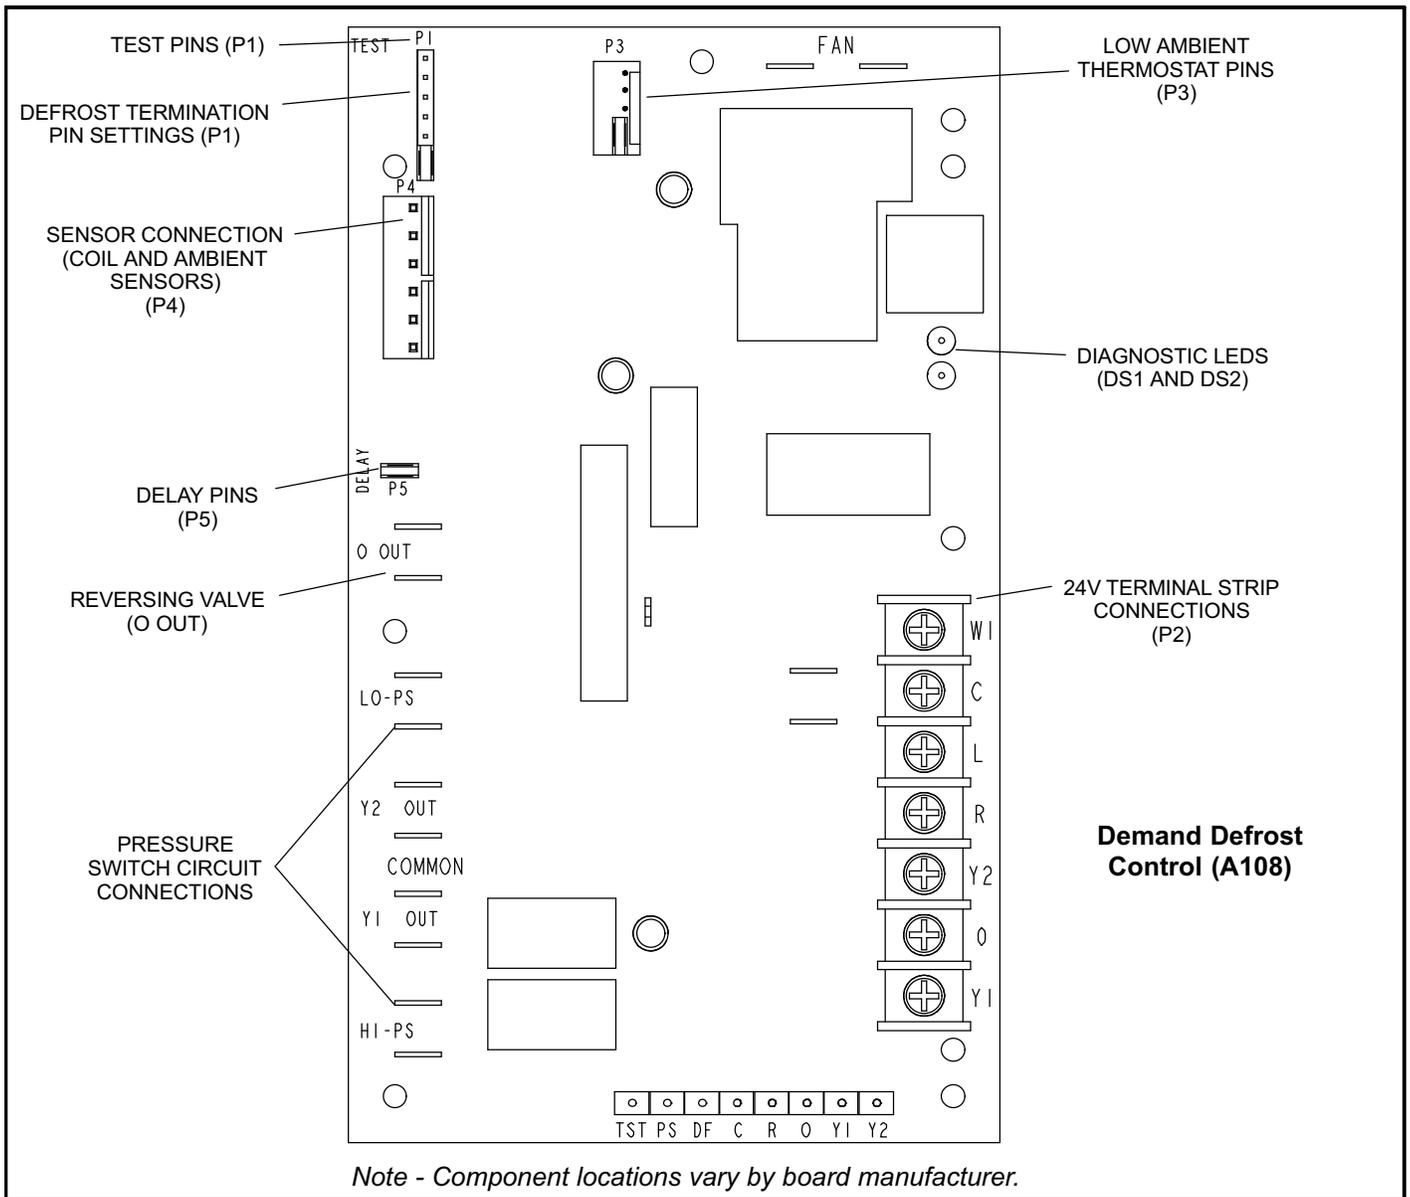

FIGURE 17
atures to detect when the system is performing poorly because of ice build-up on the outdoor coil. The control *self-calibrates* when the defrost system starts and after each system defrost cycle. The demand defrost control components are shown in figure 17.
- Demand defrost control connections, jumpers and LED locations are shown in figure 17.